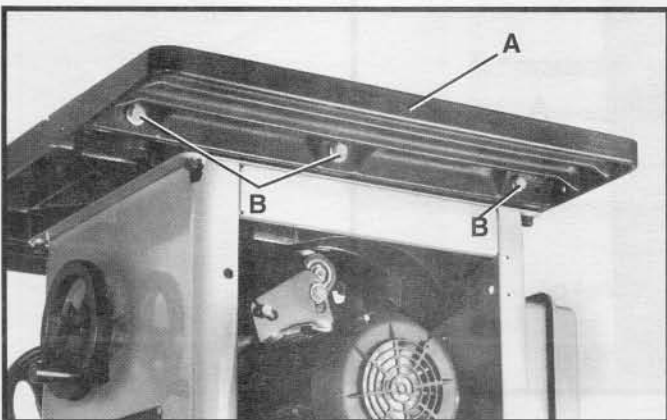
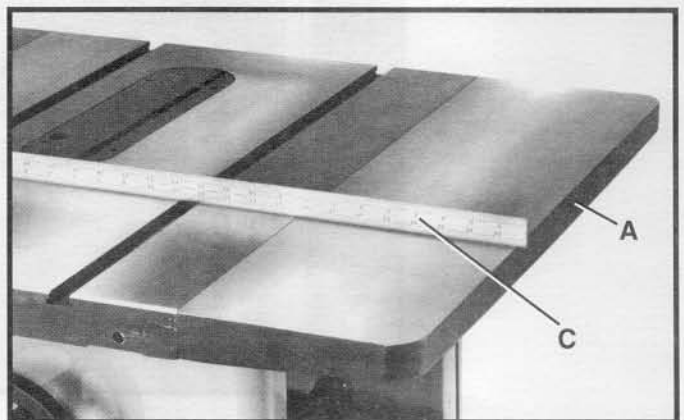

Fig. 11
Fig. 12
Assemble extension wing (A) Fig. 11, to the right hand side of the saw table using three 1-1/4" long hex head screws (B) and flat washers supplied. Use a straight edge (C) Fig. 12, to make certain the extension wing is level with the saw table before tightening three screws (B) Fig. 11. **NOTE:** Make certain the left extension wing is also level with the saw table in the same manner. Adjust if necessary.